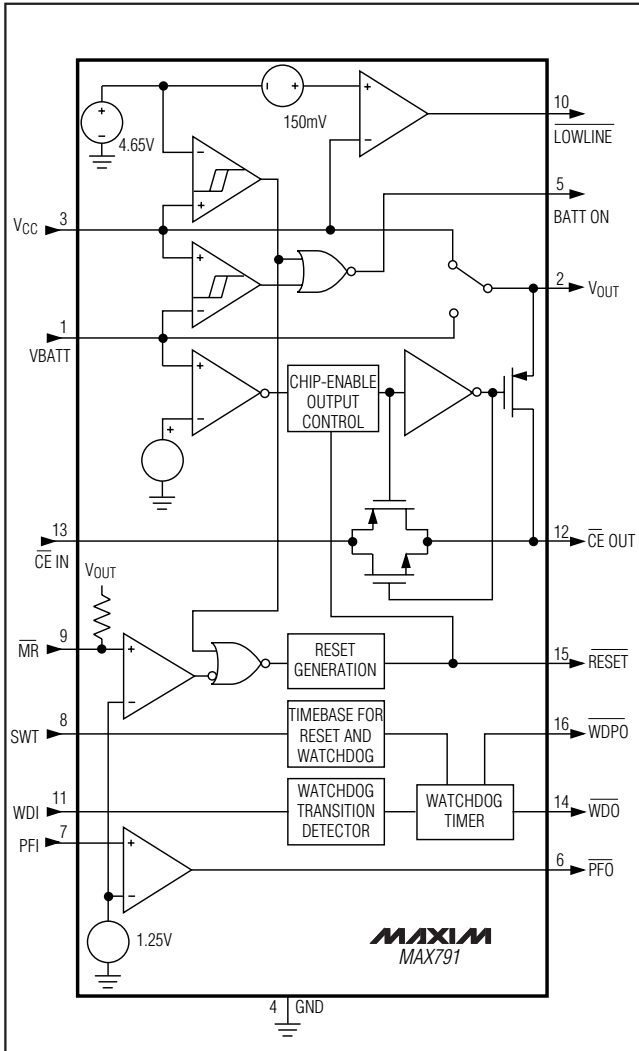

Figure 1. MAX791 Block Diagram
Many  $\mu$ P-based products require manual-reset capability, allowing the operator or test technician to initiate a reset. The Manual Reset Input (MR) can be connected directly to a switch, without an external pull-up resistor or debouncing network. It connects to a 1.25V comparator, and has a pull-up to  $V_{OUT}$  as shown in Figure 1. The propagation delay from asserting MR to RESET asserted is 4 $\mu$ s typ. Pulsing MR low for a minimum of 15 $\mu$ s resets all the internal counters, sets the Watchdog Output (WDO) and Watchdog-Pulse Output (WDPO)